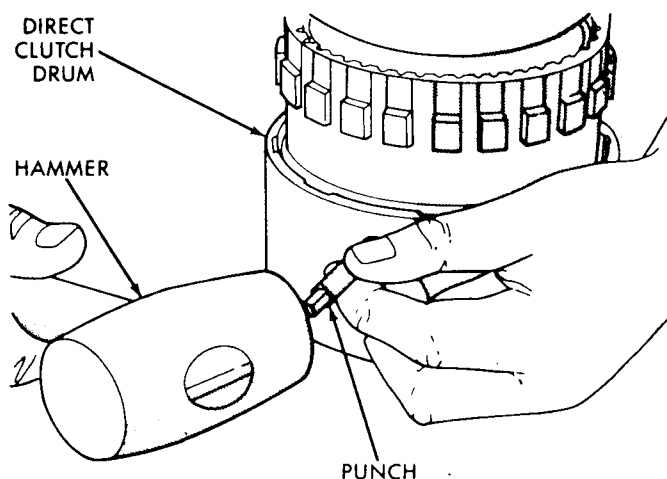

Fig. 7—Mark Unit for Reassembly
(6) Mark the direct clutch drum and annulus for reassembly (Fig. 7).